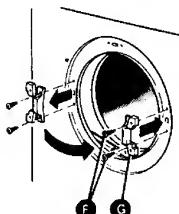

Fig. 2
- (Fig 2)
- Remove hinge screws (F) and hinge (G)